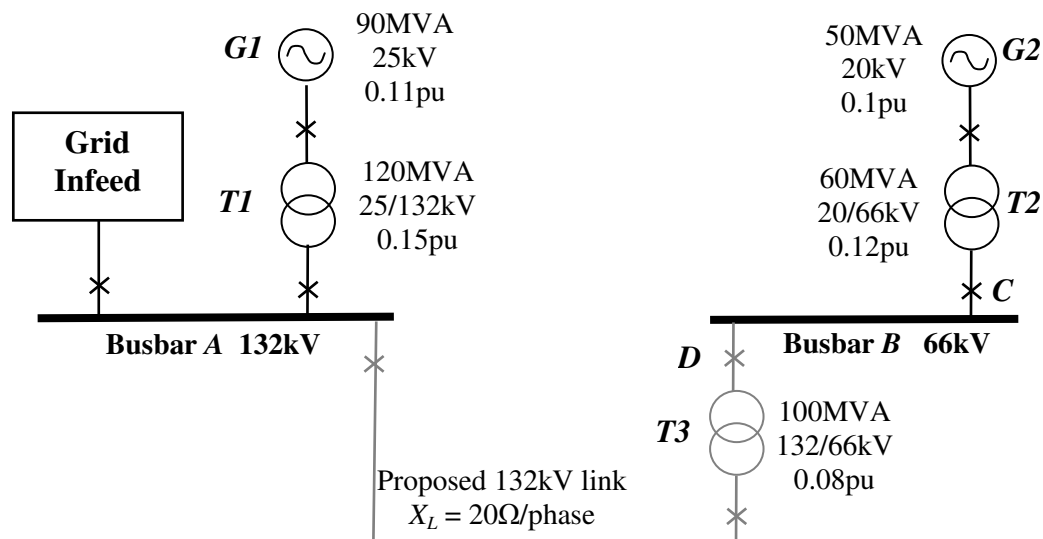

Figure A2.1
- a. Briefly explain and illustrate the operation of the Arc Chute and Blow-out Coil types of plain air break circuit breakers. (3)
- b. Describe what in general is meant by the per-unit value of any quantity. How is this general definition usually applied in 3-phase systems? (2)
- c. Figure A2.1 shows a line diagram of a three-phase network in which it is proposed to link the 66kV busbar **B** to the 132kV system at **A** via an overhead line and a 100 MVA transformer (**T3**) as shown. (2)